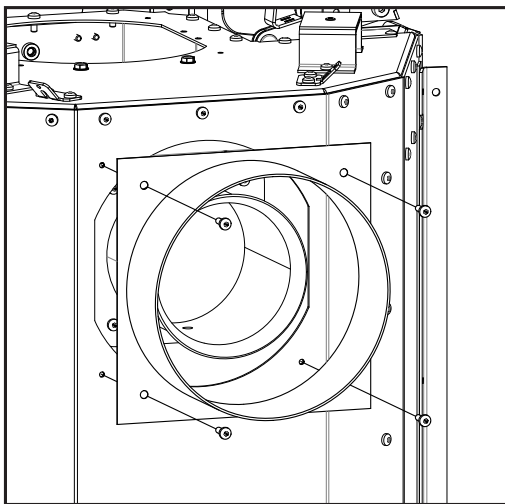

Figure 73: Vent Adapter Attachment
11. Attach the vent adapter over top of the exhaust spigot (see Figure 73).